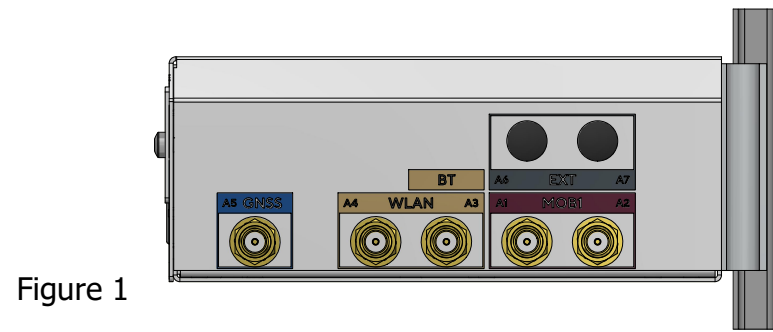

Figure 1
- 4.1 Connect the antenna cables according the port layout (Figure 1)